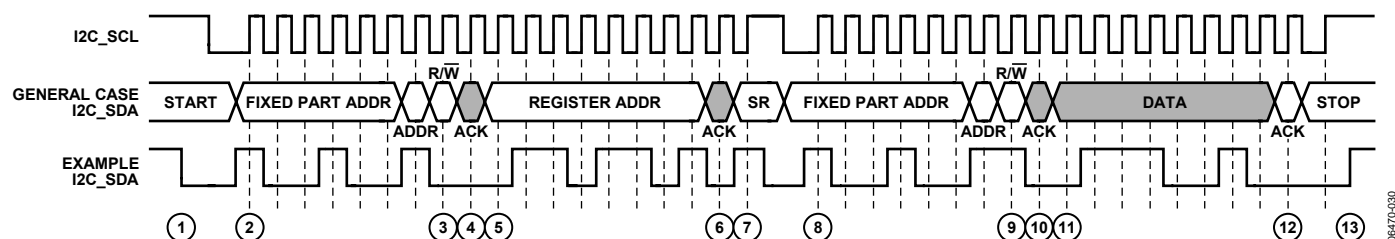

Figure 30. I²C Read Procedure
To read data from the AD8196 register set, an I²C master (such as a microcontroller) needs to send the appropriate control signals to the AD8196 slave device. The signals are controlled by the I²C master, unless otherwise specified. For a diagram of the procedure, see Figure 30. The steps for a read procedure are as follows:
9. Send the read indicator bit (1).
- a. Send a stop condition (while holding the I2C\_SCL line high, pull the SDA line high) and release control of the bus to end the transaction (shown in Figure 30).